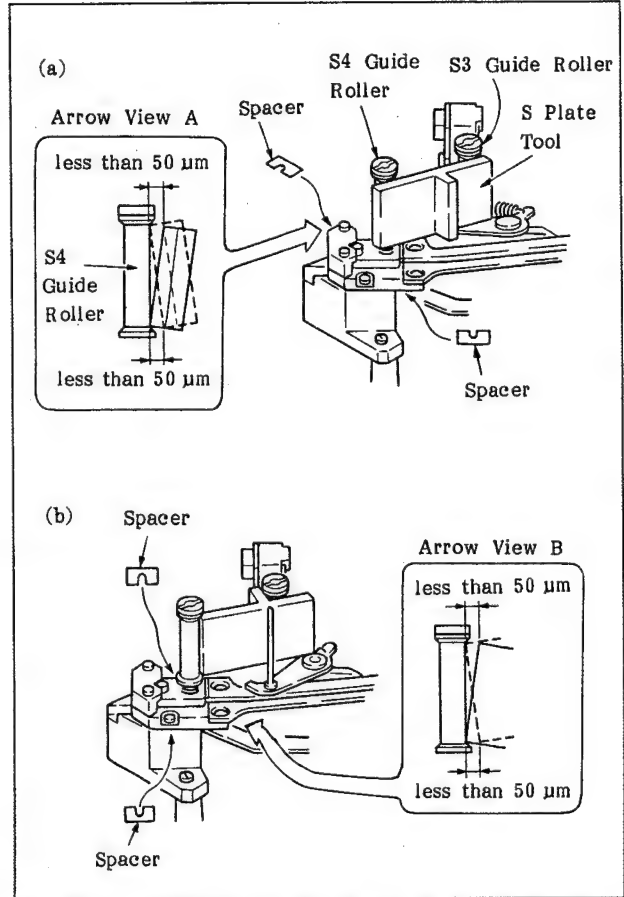

Fig. 6-51 Adjustment of the Inclination of the S4 Guide Roller
- 8. Push the S plate tool so that it fits tightly with the S3 guide roller as shown in Figure 6-51(a). Then, check that the clearance between the S4 guide roller and the S plate tool is less than 50 μ m in both upper and lower portions of the S4 guide roller when the S4 guide roller fits together with the S plate tool. If it is not satisfied, adjust it by inserting a spacer as shown in the figure.
- 9. In a similar manner, check that the clearance between the S4 guide roller and the S plate tool is less than 50 μ m when the S plate tool fits tightly with the S3 guide roller as shown in Figure 6-51 (b). If it is not satisfied, adjust it by inserting a spacer as shown in the figure.